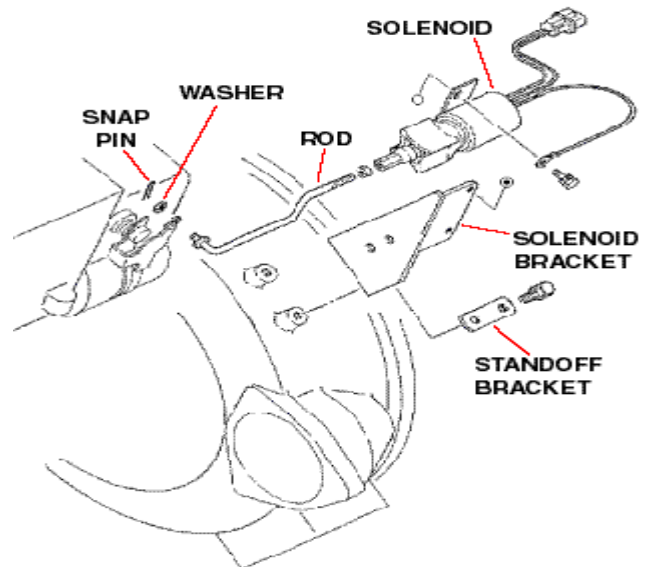

FIGURE 3
3. Remove the shutdown solenoid, mounting bracket, and solenoid rod by removing the snap pin and washer on the injection pump lever and by removing the two (2) bolts attaching the solenoid mounting bracket to the engine flywheel housing. Reattach the battery cable standoff bracket using one of the removed bolts. Retain the snap pin and washer for later use but discard all other removed parts. See Figure 3 on the right.